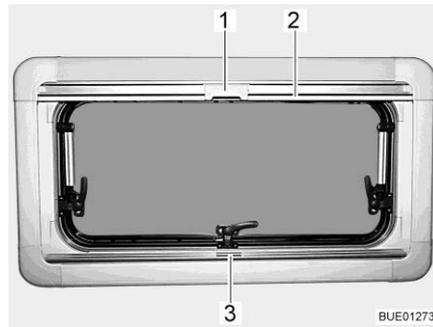

Fig. 57 Hinged window
- Grip the Roman shade in the centre of the holding bar (Fig. 57,3), pull it from the bottom to the top and then release it at the desired height. The Roman shade will stay at this height.
- Pull the insect screen down using the holding bar (Fig. 57,2), until it touches the holding bar of the Roman shade (Fig. 57,3).
- Clip the catch (Fig. 57,1) on the insect screen into the handle of the Roman shade.
- Push the catch (Fig. 57,1) on the insect screen inwards.
- Move the insect screen back slowly on the holding bar (Fig. 57,2).